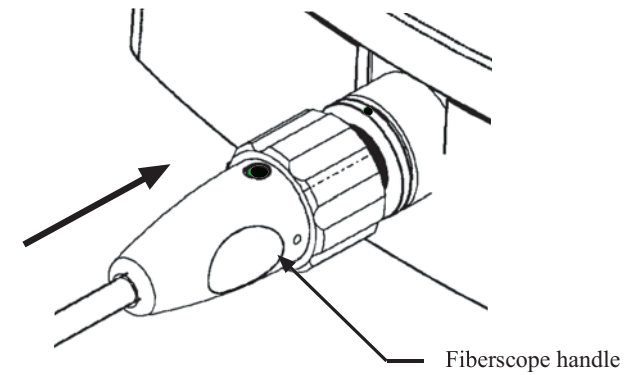

Figure 8a. Switching to backup lamp
- a. Push the fiberscope handle in toward the video box, as shown in Figure 8a.